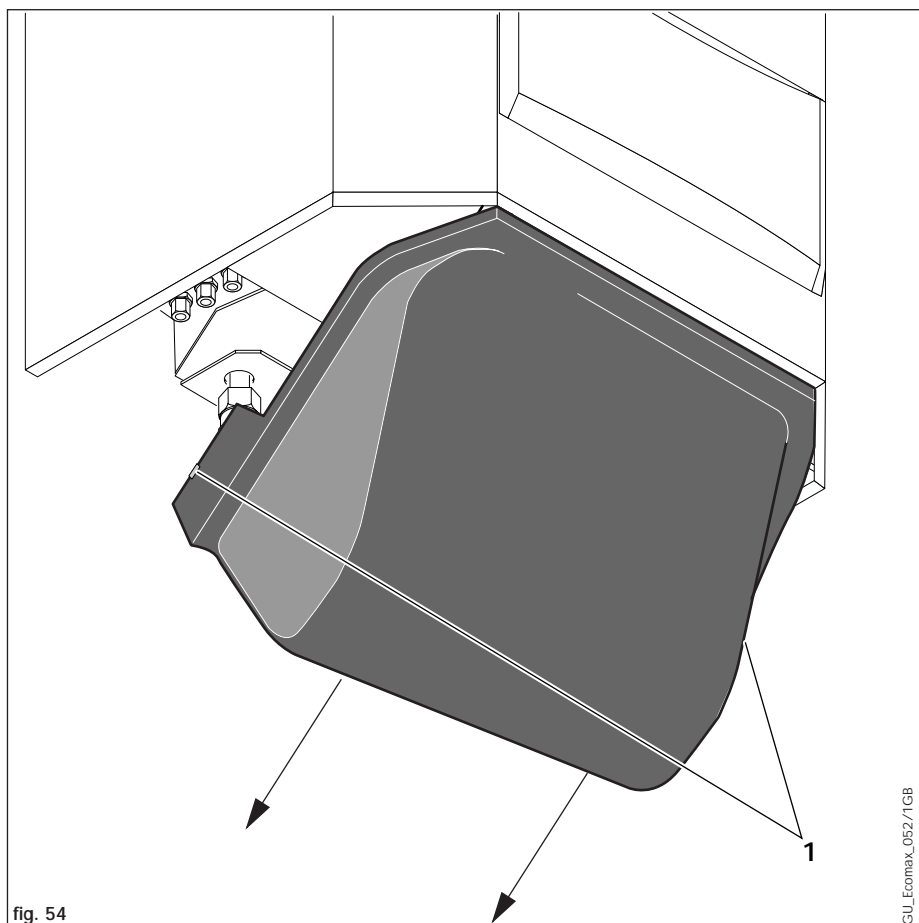
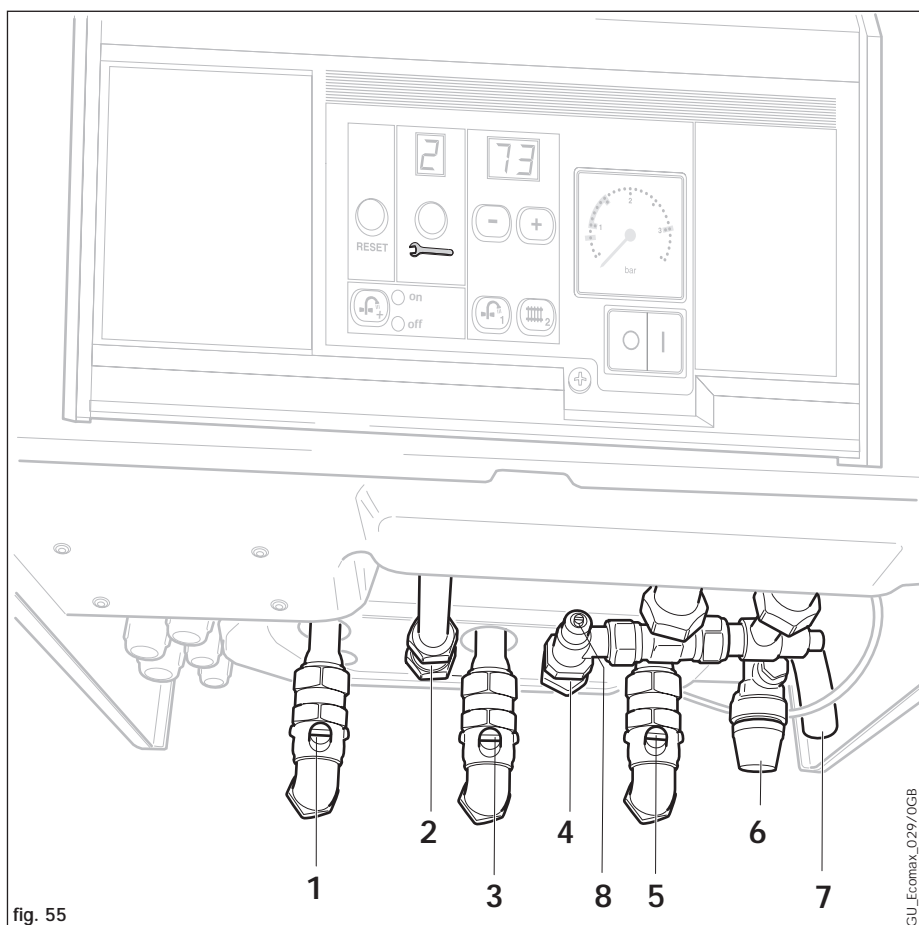

fig. 54
fig. 55
7.1.1 Turning off the boiler (fig. 54 and fig. 55)
- Remove boiler bottom cover by releasing the two spring retaining lugs (1, fig 54) and lowering the rear of the bottom cover. Gently pull the bottom cover backwards to remove from the appliance.
- Turn off the gas service valve (3, fig. 55).
- Turn off the boiler CH service valves (1 and 5, fig. 55)).
- Turn off the cold water inlet service valve (8, fig. 55).
- Turn off the CH service valves (1 and 5, fig. 55).
- Attach a length of rubber hose to draining point (1), turn drain point one turn to open and drain water from the boiler into a suitable container.